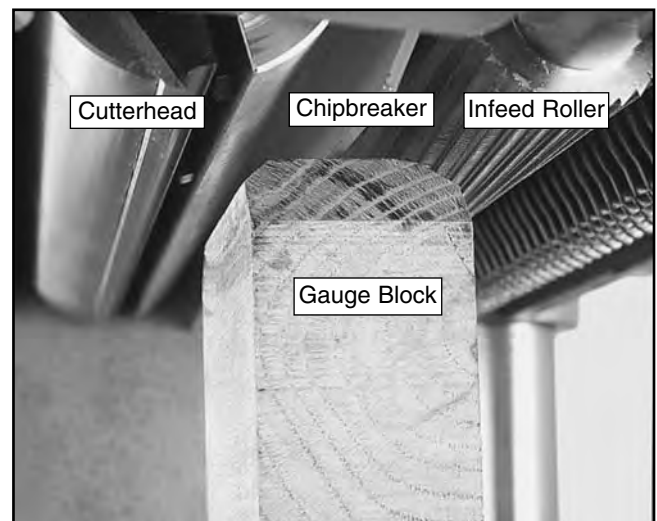

Figure 17. Location of chip breaker assembly.
5. Remove the feeler gauge and slide the gauge block under the chip breaker. See **Figure 17**. The chip breaker should just touch the top of the gauge block. Slide the gauge block to the opposite end of the chip breaker and check it in the same manner.